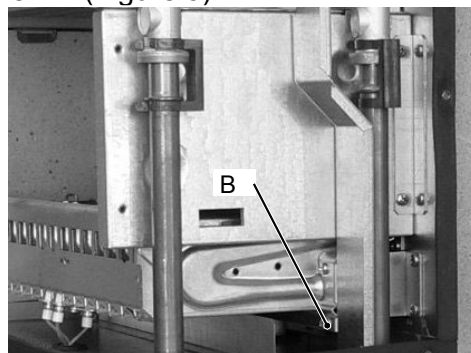

Figure 3
- 4) Remove the deflector by unscrewing the screw B (Figure 3).